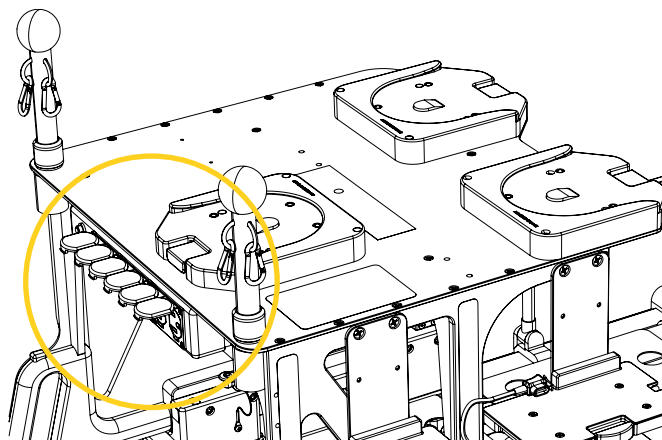

Figure 56: Power bar location
1. Locate the power bar at the front of the mobile structure, under the mobile structure top plate towards patient foot end (Figure 56).